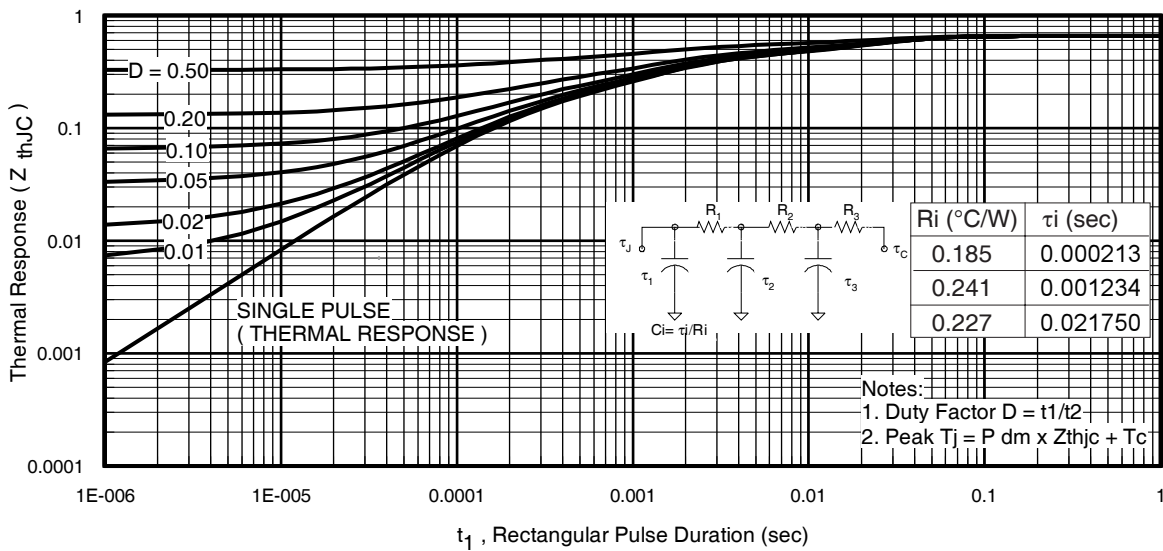
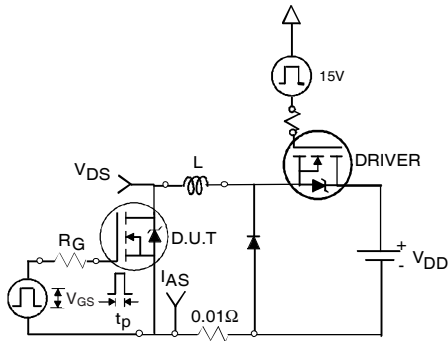

Fig 11. Maximum Effective Transient Thermal Impedance, Junction-to-Case
Fig 12a. Unclamped Inductive Test Circuit
- ① Repetitive rating; pulse width limited by max. junction temperature. (See fig. 11).
- ② Limited by T_{Jmax} , starting $T_J = 25^\circ\text{C}$, $L = 0.079\text{mH}$, $R_G = 25\Omega$, $I_{AS} = 75A$, $V_{GS} = 10V$. Part not recommended for use above this value.
- ③ Pulse width $\leq 1.0\text{ms}$; duty cycle $\leq 2\%$.
- ④ $C_{oss \text{ eff.}}$ is a fixed capacitance that gives the same charging time as C_{oss} while V_{DS} is rising from 0 to 80% V_{DSS} .
- ⑤ Limited by T_{Jmax} , see Fig.12a, 12b, 15, 16 for typical repetitive avalanche performance.
- ⑥ This value determined from sample failure population. 100% tested to this value in production.
- ⑦ This is only applied to TO-220AB package.
- ⑧ When mounted on 1" square PCB (FR-4 or G-10 Material). For recommended footprint and soldering techniques refer to application note #AN-994.
3. Equation below based on circuit and waveforms shown in Figures 12a, 12b.
$Z_{thJC}(D, t_{av})$ = Transient thermal resistance, see figure 11)